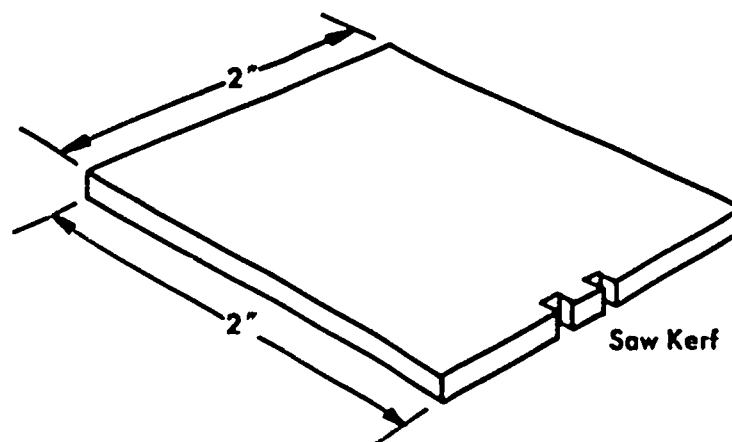

Fig. 100-1. Plastic Square
- a. Plastic should be notched as shown in Fig. 100-1.